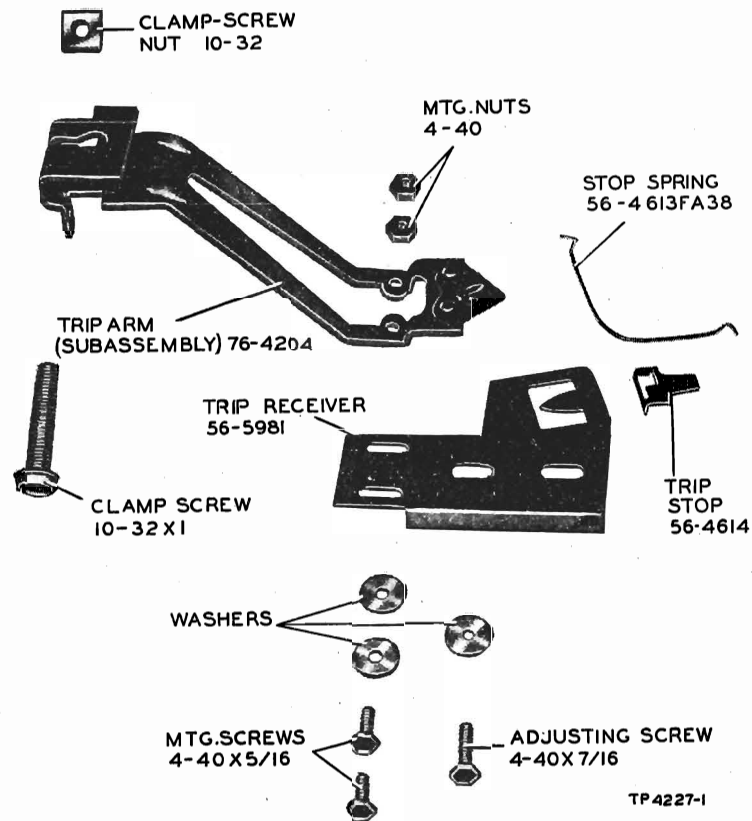

FIGURE 28 TRIP-ARM AND TRIP-RECEIVER ASSEMBLIES
- Remove trip arm and disengage link spring. Figure 28 shows the trip-arm and trip-receiver assembly.